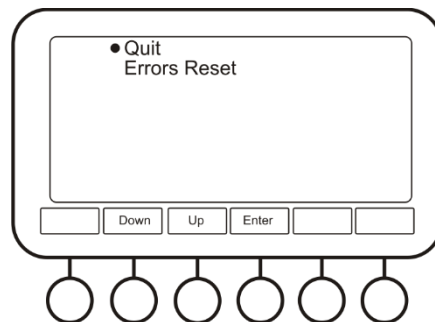

Fig. 6. Current Errors menu
4.9.3.1 **Current Errors** (fig. 6). This option allows user to view and reset the list of active errors. See **Fault diagnostics** section, p. 5.3, for a list of possible errors.